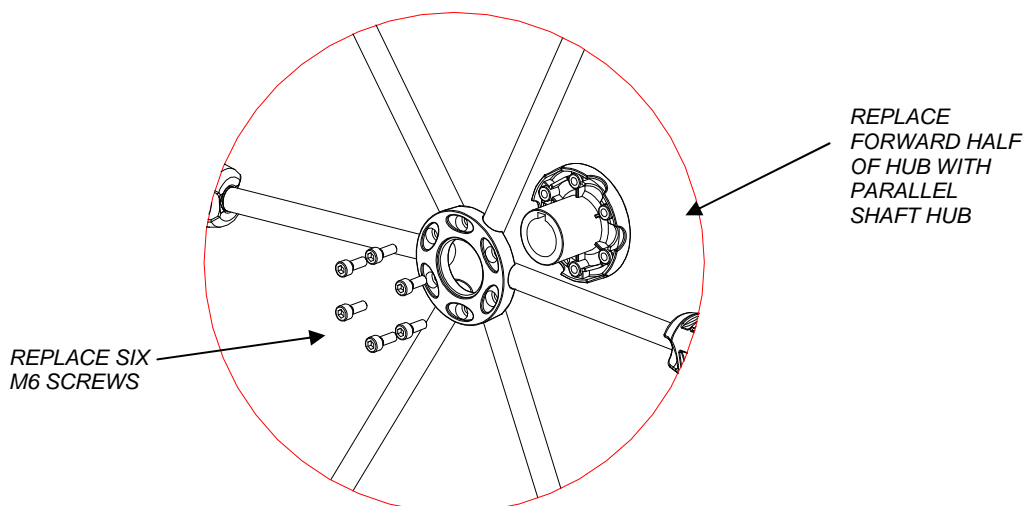

FIG 3 SHOWING PARALLEL SHAFT HUB AND FASTENERS READY TO ASSEMBLE
3. Replace this hub with the PARALLEL shaft hub, and fasten using the six M6 socket headed cap screws. (fig 3)